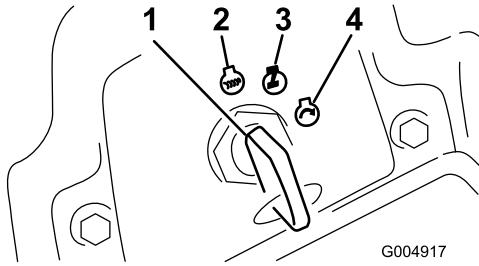

Figure 45
6. Turn the ignition key clockwise to the Run position (Figure 45).
- Turn the ignition key to the Off position (Figure 45). Wait for all moving parts to stop before leaving the operating position.